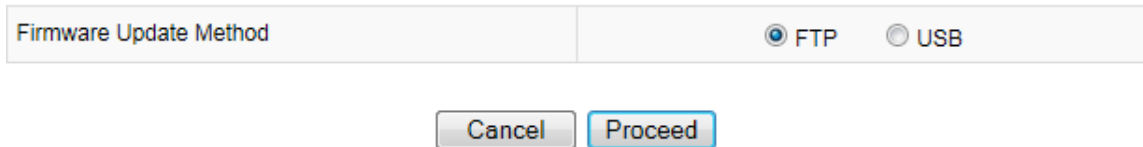

Figure 3-11 E5810B LAN/GPIB/USB Gateway dialog box
- b Select the **Update the E5810B firmware** hyperlink on this page. You will be prompted for a password before the Update Firmware on your E5810B LAN/GPIB/USB Gateway dialog box is displayed as shown in **Figure 3-11**.